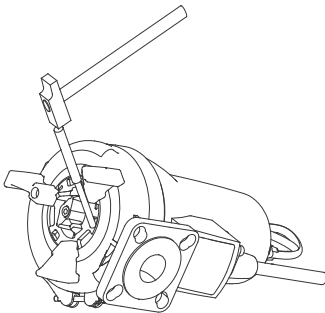

Fig. 13 Removing the grinder ring
2. Loosen the grinder ring (44), and open the bayonet socket by knocking or turning the grinder ring 15 to 20 ° clockwise. See fig. 13.